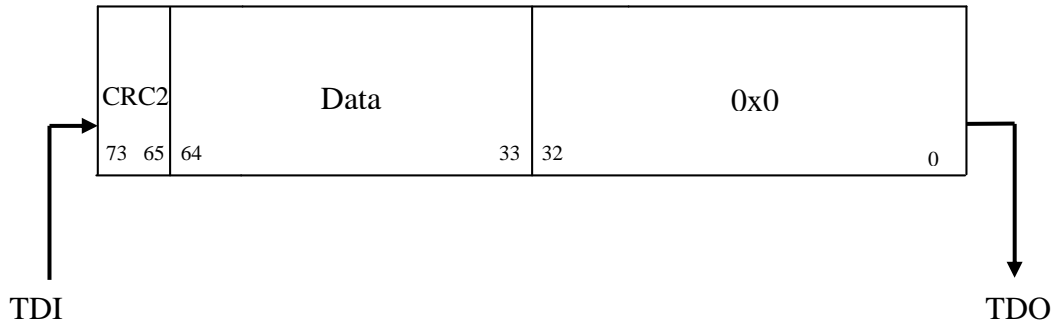

Figure 5: OpenRISC Debug Interface Scan Chain (data shifted out)
- ✓ CRC2 is shifted out (Figure 5: OpenRISC Debug Interface Scan Chain (data shifted out)). It is calculated from the address, the R/W that were shifted in, and data that is